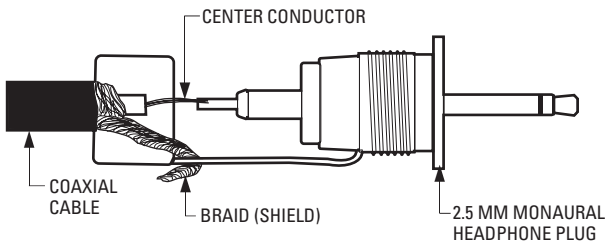

Figure 20. Attaching the 2.5 mm Monaural Headphone Plug
2. Attach the 2.5 mm monaural plug to the other end of the coaxial cable (refer to Figure 20):